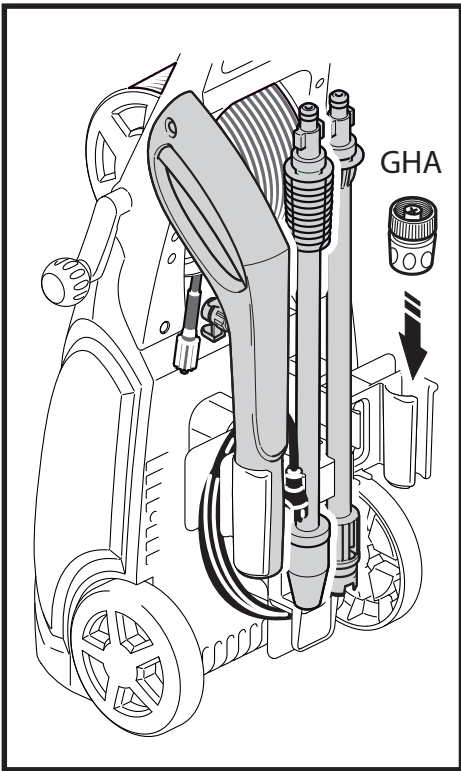

Fig. 22
- The GHA should be stored in the accessory holder when your unit is not in use to prevent loss or damage (Fig. 22).
- Remove lance or detergent bottle from the gun and place in the accessory holder. Place the gun in the accessory holder in one of the slots. Lances are pressed into and stored in the half circle notches (Fig. 22). Make sure to discard any remaining detergent from the bottle. Flush the bottle and